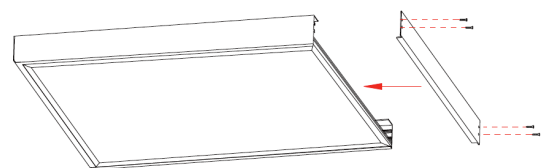

Fig. 15
4. Replace formerly removed side of frame (Fig. 15)